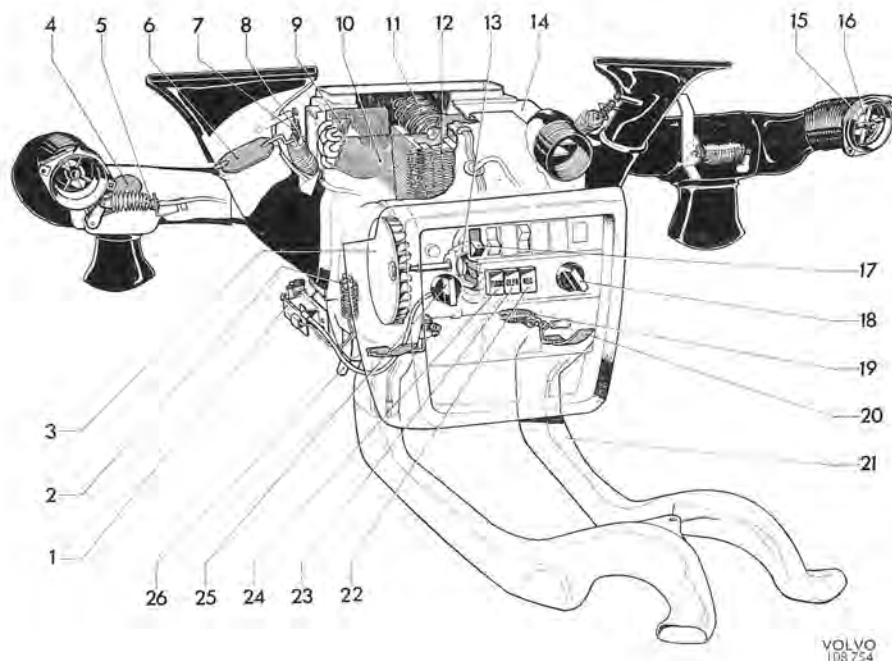

Fig. 8-34. Combined unit
This is a combined heater and fresh-air unit, prepared for installation of air conditioning. It consists of a central unit (14, Fig. 8-34), located under the dash, and air ducts and vents for distributing the air to the various points inside the car. All shutters for directing the air are regulated by vacuum, which is taken from the engine intake manifold via a vacuum tank placed under the dash. The four vents (15) on the dash are manually adjustable and can be turned, opened and closed irrespective of each other and by means of a knob (16) in the centre of the vent.
Even when the air conditioning is switched on with a switch (17, Fig. 8-34) on the dash, the air temperature is regulated by the "TEMP" control. Fig. 8-33 shows how the sucked-in air is first cooled when it passes the eva-
porator (1) and how it is heated when it passes the heater cell assembly (2) up to the temperature adjusted by the "TEMP" control. When the air passes the evaporator, it liquifies as it cools. The moisture which condenses on the evaporator during the cooling, is drained through the two hoses (26, Fig. 8-34), which run through the transmission tunnel.